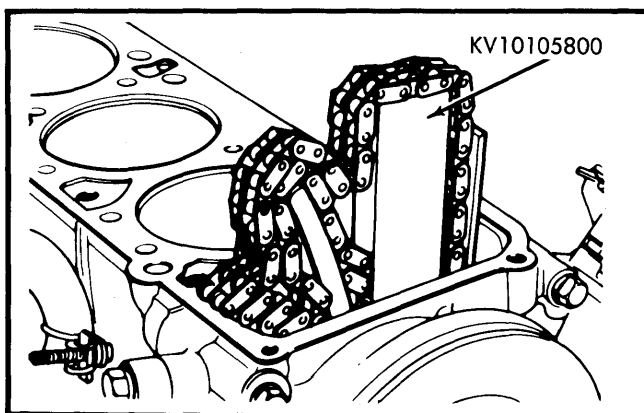
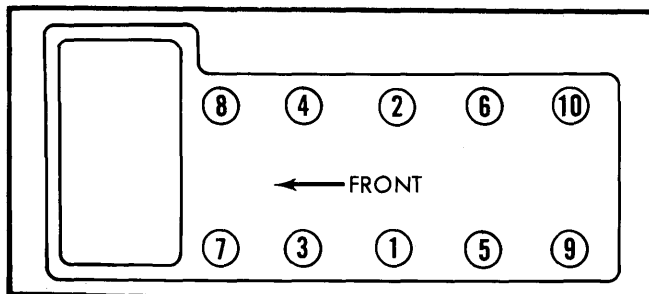

Fig. 1 Holding Timing Chain with Special Support Tool
Fig. 2 Cylinder Head Tightening Sequence
5) Remove camshaft sprocket and use retainer tool (KV10105800) to support timing chain as shown in Fig. 1. Remove cylinder head attaching bolts in reverse of sequence shown in Fig. 2. Remove cylinder head.
3) Tighten head bolts in several steps in the sequence illustrated in Fig. 2 to final specified torque. Recheck torque after engine has been running for several minutes.